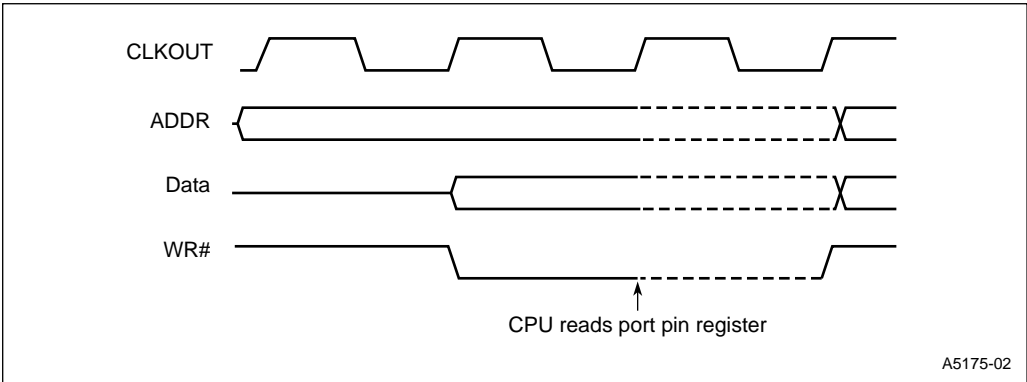

Figure 3. Timing of a Write Followed by an Internal Register Read
When the CPU executes the store (ST) instruction, it passes the write to the bus controller. At this point, the load byte (LDB) instruction is in the pipeline and executing. The CPU executes all possible pipeline stages of the load byte instruction (LDB) independent of the store (ST) instruction's stall in the fourth stage. Therefore, if a stall occurs, the load byte instruction might read P1_PIN before the store into the ASIC is complete. If this occurs, the ASIC has not received and processed the information from the controller in time to affect P1.x before port 1 is read. Therefore, the ASIC signal on port 1.x may send erroneous information. Figure 3 illustrates this timing sequence. Notice that the write is still in progress when the read of the internal register occurs.